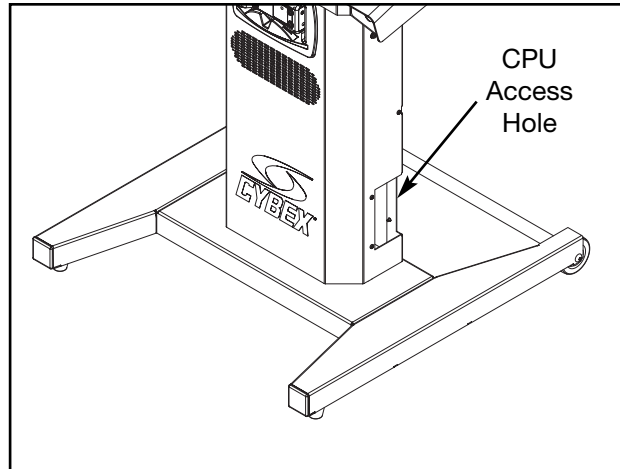

Figure 8
D. Locate the CPU access hole. See Figure 8.